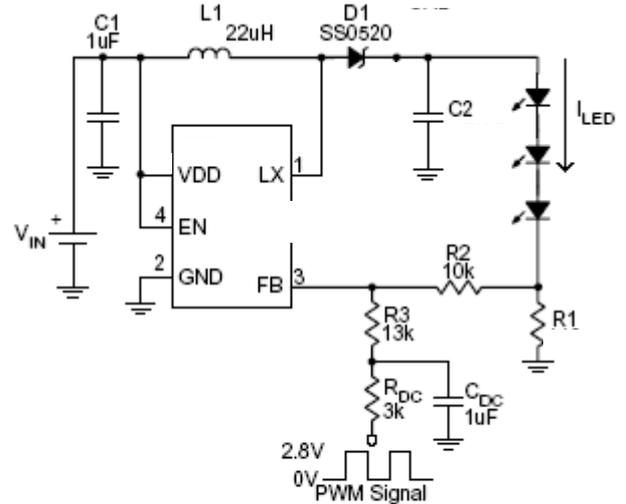
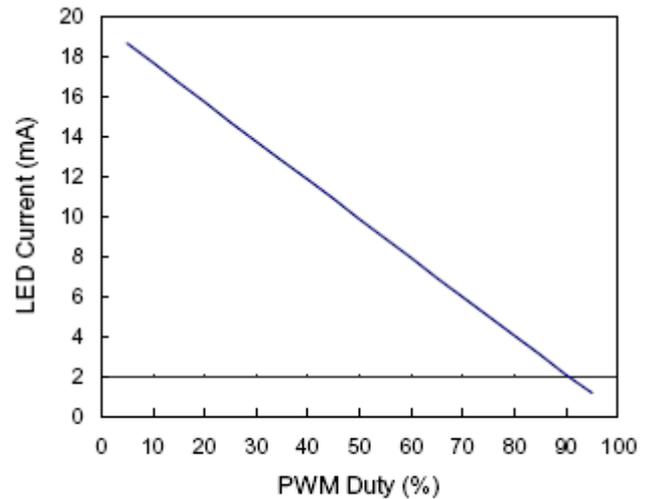

Figure 6. Filtered PWM Signal for LED Dimming Control
Figure 7
c. Using a Filtered PWM signal: Another common application is using a filtered PWM signal as an adjustable DC voltage for LED dimming control. A filtered PWM signal acts as the DC voltage to regulate the output current. The recommended application circuit is shown in the Figure 6. In this circuit, the output ripple depends on the frequency of PWM signal. For smaller output voltage ripple (<100mV), the recommended frequency of 2.8V PWM signal should be above 2kHz. To fix the frequency of PWM signal and change the duty cycle of PWM signal can get different
output current as Figure 7. According to the application circuit of Figure 6, output current is from 18.7mA to 1.16mA by adjusting the PWM duty cycle from 5% to 95%.